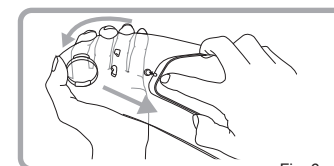

Fig. 6
2. Remove the Pinlock® Original Insert Lens from the eccentric pins with flexing the shield. (Fig.6)